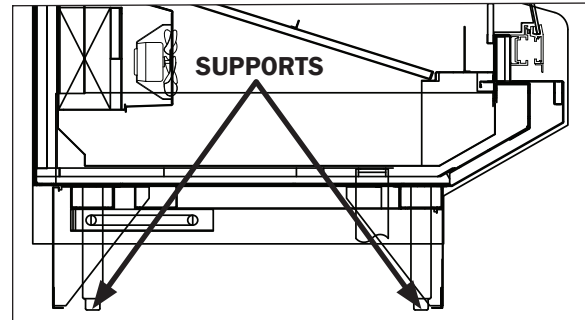

Fig. 1 Vertical supports
7. Locate vertical (bullet leg) support positions along the chalk line (Fig. 1). Spot properly leveled shim packs at each support location.